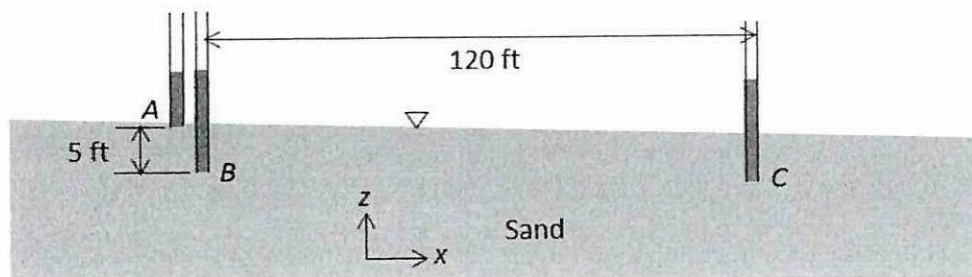

Figure Q4.1: Piezometers in an aquifer
- (c) There are 3 piezometers in an unconfined sand aquifer as shown in **Figure Q4.1**. The heads are $h_A = 104.56$ ft, $h_B = 104.53$ ft, and $h_C = 103.42$ ft respectively. The rate of recharge is estimated to be 1.25 ft/yr. The average horizontal hydraulic conductivity of the sand based on testing is $K_x = 8$ ft/day. Assume that in the vicinity of these three piezometers, the vertical velocity, V_z equals the recharge rate. Estimate